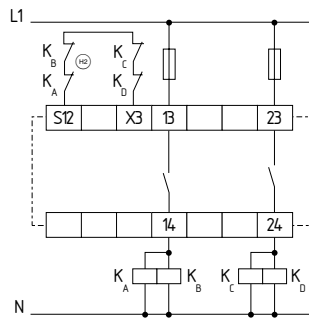

Fig. 8
**Dual-channel control with feedback circuit (Fig. 8)**